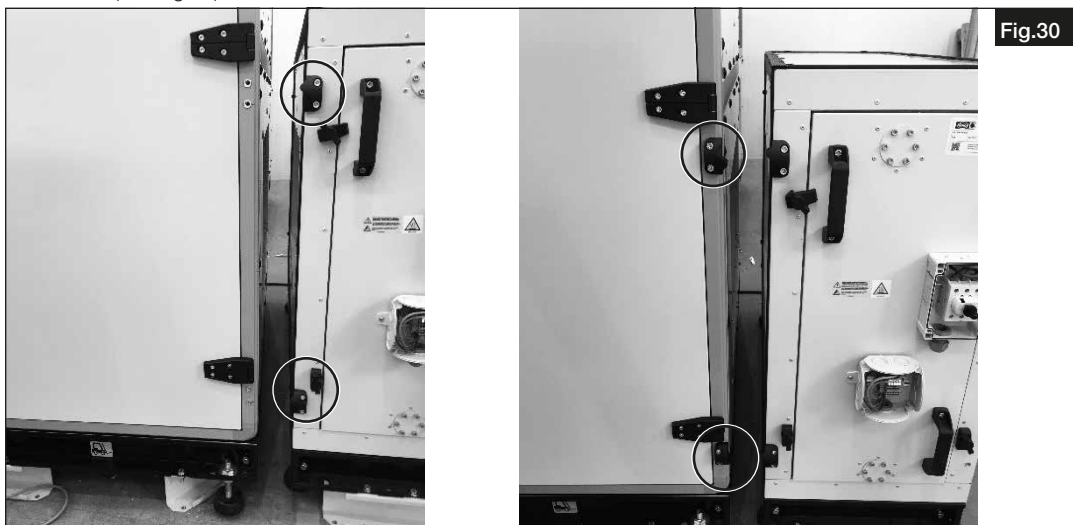

Fig.30
6. Mount the module connector to the AIR1 unit or external auxiliary heater and the cooling register. Tighten the screws (see Fig.30).